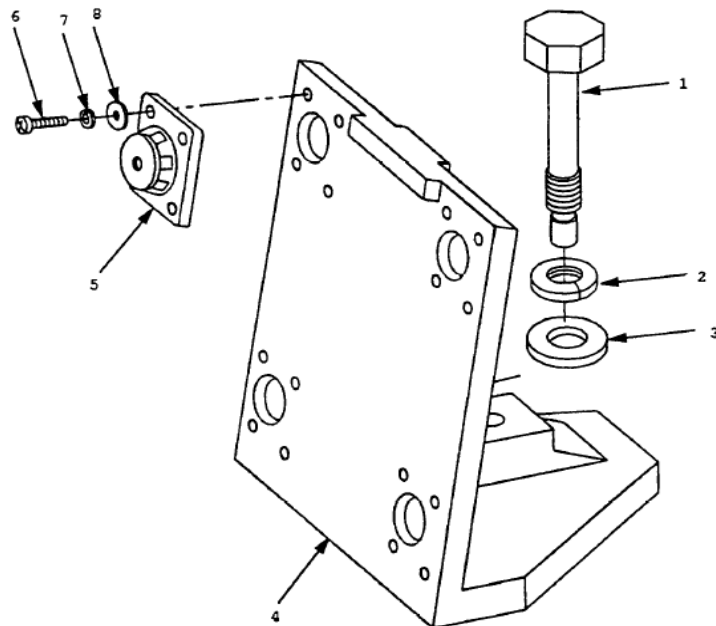

**Figure 2**
(1) Transceiver from antenna-mounting bracket. Remove the following parts in accordance with the following steps and figure 2:
(2) Transceiver to antenna-mounting bracket. Install the following parts in accordance with the following steps and figure 2: